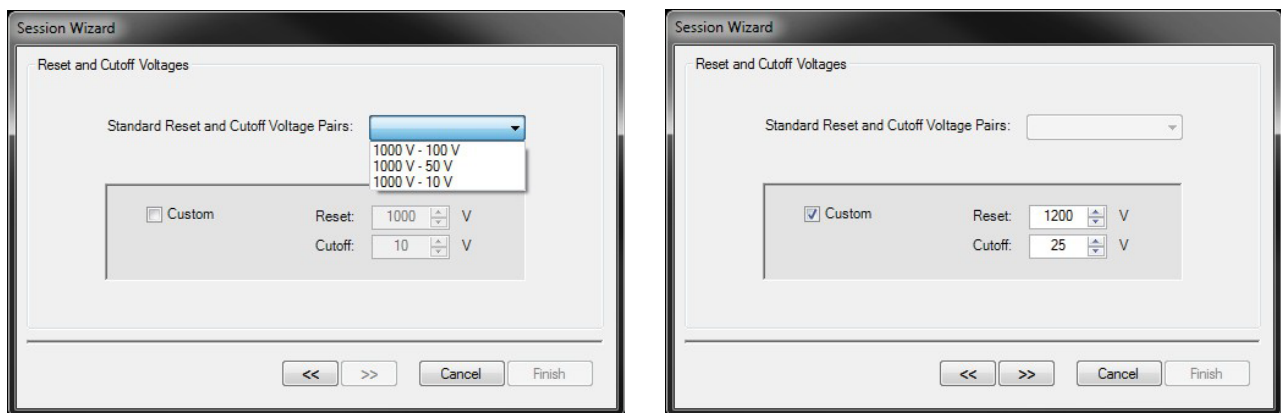

Figure 7: Standard Reset and Cutoff Voltages (left), or check the Custom Box (right) and Manually Enter
- a. Standard **Reset** and **Cutoff** voltages are (See Figure 7-left):
- b. Check the **Custom** box to enter any two voltages for evaluation. Figure 7-right.